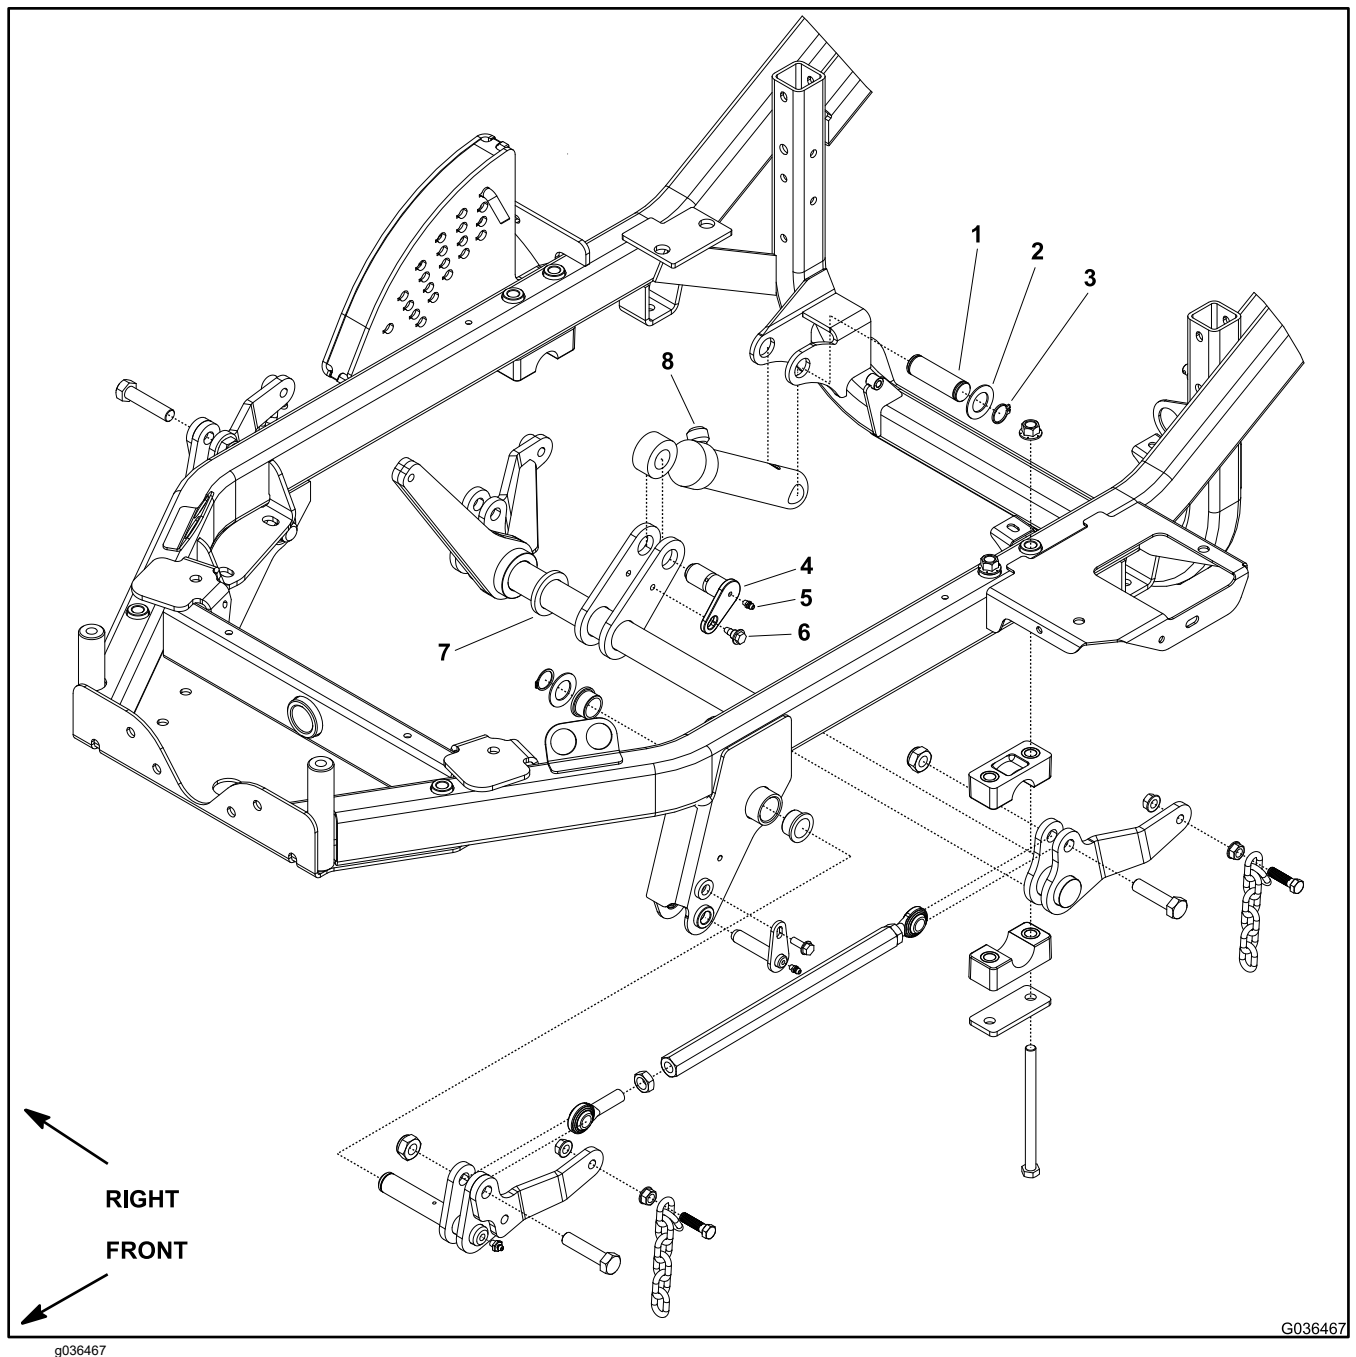

Figure 153
7. Remove the retaining ring (item 3 in Figure 153) and washer from one end of the cylinder shaft that secures the lift cylinder head to the machine frame.
9. Remove the shoulder bolt (item 6 in Figure 153) and pivot pin that secure the lift cylinder rod end to the lift shaft assembly.
3. Secure the cylinder rod end to the lift shaft assembly with the pivot pin (item 4 in Figure 153) and shoulder bolt.
4. Align the lift cylinder to the frame mounting holes. Slide the cylinder shaft (item 1 in Figure 153) (with a washer and retaining ring installed on the one end) through the lift cylinder and frame. Install the second washer on the shaft and secure the shaft with the second retaining ring.